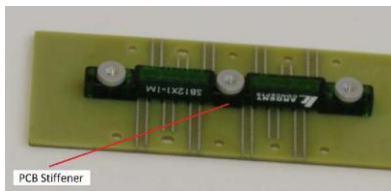

Figure 3: Mounting the Stiffener Block
- Carefully locate the TR board footprint and align the press bosses of the Stiffener Block to the underside of the TR Multicoax Series footprint on the PCB (See Figures 3 and 4).